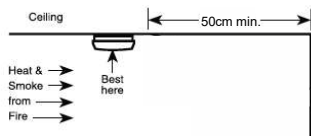
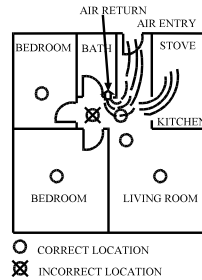

Fig. 3 – Smoke alarm location from walls
Fig. 4 – Dead-air areas
Install smoke alarms as close to the centre of the ceiling as possible, away from light fittings and air-conditioning ducts. If this is not practical, put the alarm on the ceiling, no closer than 50 cm from any wall or corner as shown in Fig. 3.
areas where normal combustion particles are expected, such as kitchens. Fig. 4 indicates the correct and incorrect smoke alarm locations.
- In dead air spaces, which are often at the top of a peaked roof or in apex of ceilings and walls. Dead air may prevent smoke from reaching a smoke alarm. See Fig. 3 and Fig. 4 for recommended mounting location.